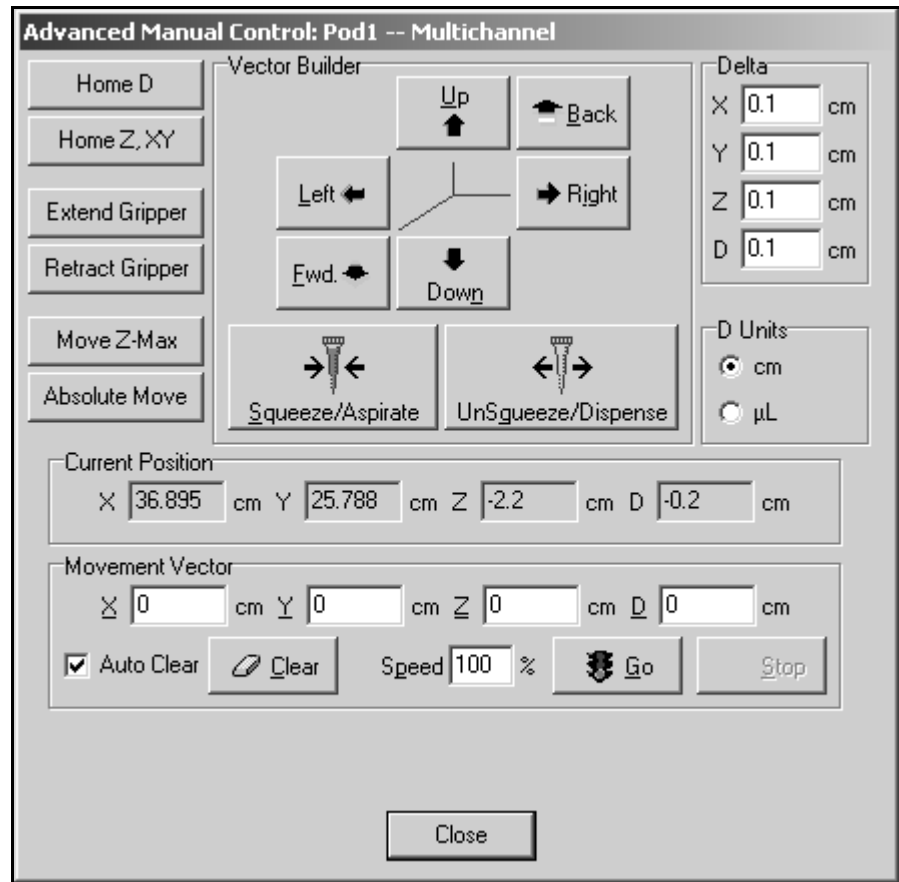

Figure 3-12. Advanced Manual Control for a Multichannel Pod
2. Select **Advanced Controls** and highlight Pod1. Advanced Manual Control: Pod1 appears (Figure 3-12).